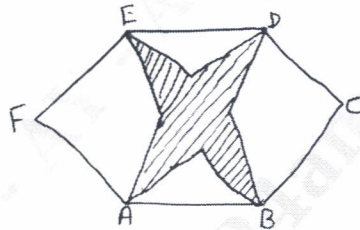

Fig.Q1(b)
- b. Find the DoF for the following mechanism. Refer Fig.Q1(b).